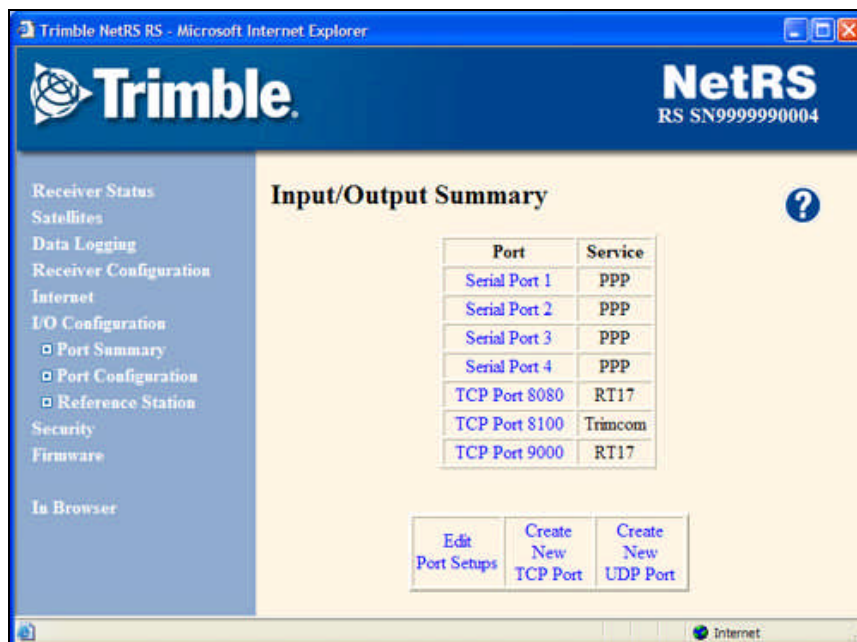
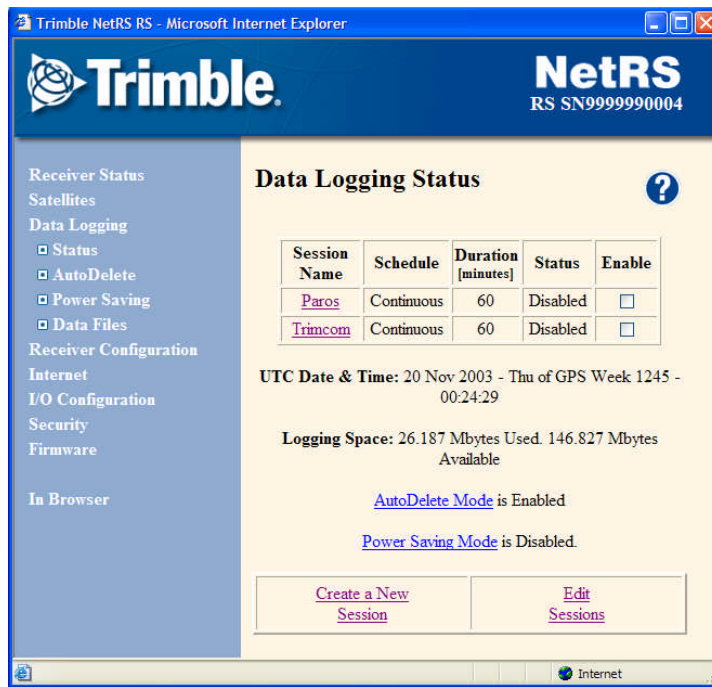

Figure 12. Trimble NetRS Serial Port Configuration
Figure 14. Trimble NetRS Data Logging Configuration
- m. In the GPS receiver home page, click on the **I/O Configuration** menu option to the left of the screen. You will be presented with different port options as in Figure 12. Select the COM port that the MET station is connected to. We will use Port 2 in this technical note.
- p. Click on the OK button. You will see the **Port Configuration** window in Figure 12 again. This time the port you just configured will show “Met-Tilt” across the port number. To start logging data in the GPS receiver, you must enable datalogging. Click on the **Data Logging** menu option. You will see a window similar to the one in Figure 14.